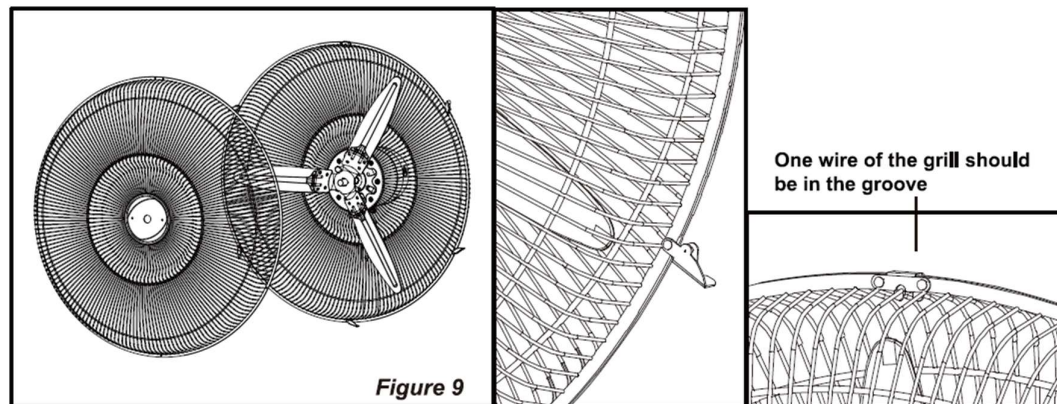

Figure 9
2. Close all the locks on the front grill to finish the assembly. (Figure 9)